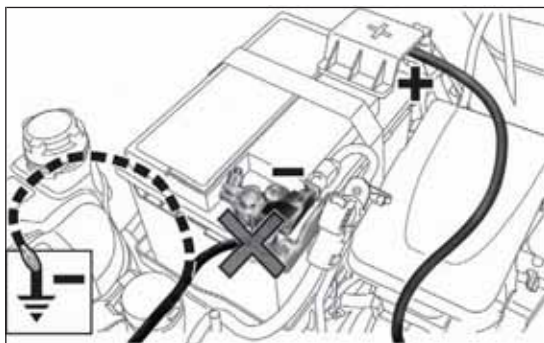

fig. 113
- ☐ connect the positive terminals (+ sign near the terminal) of the two batteries with a jump lead fig. 113;